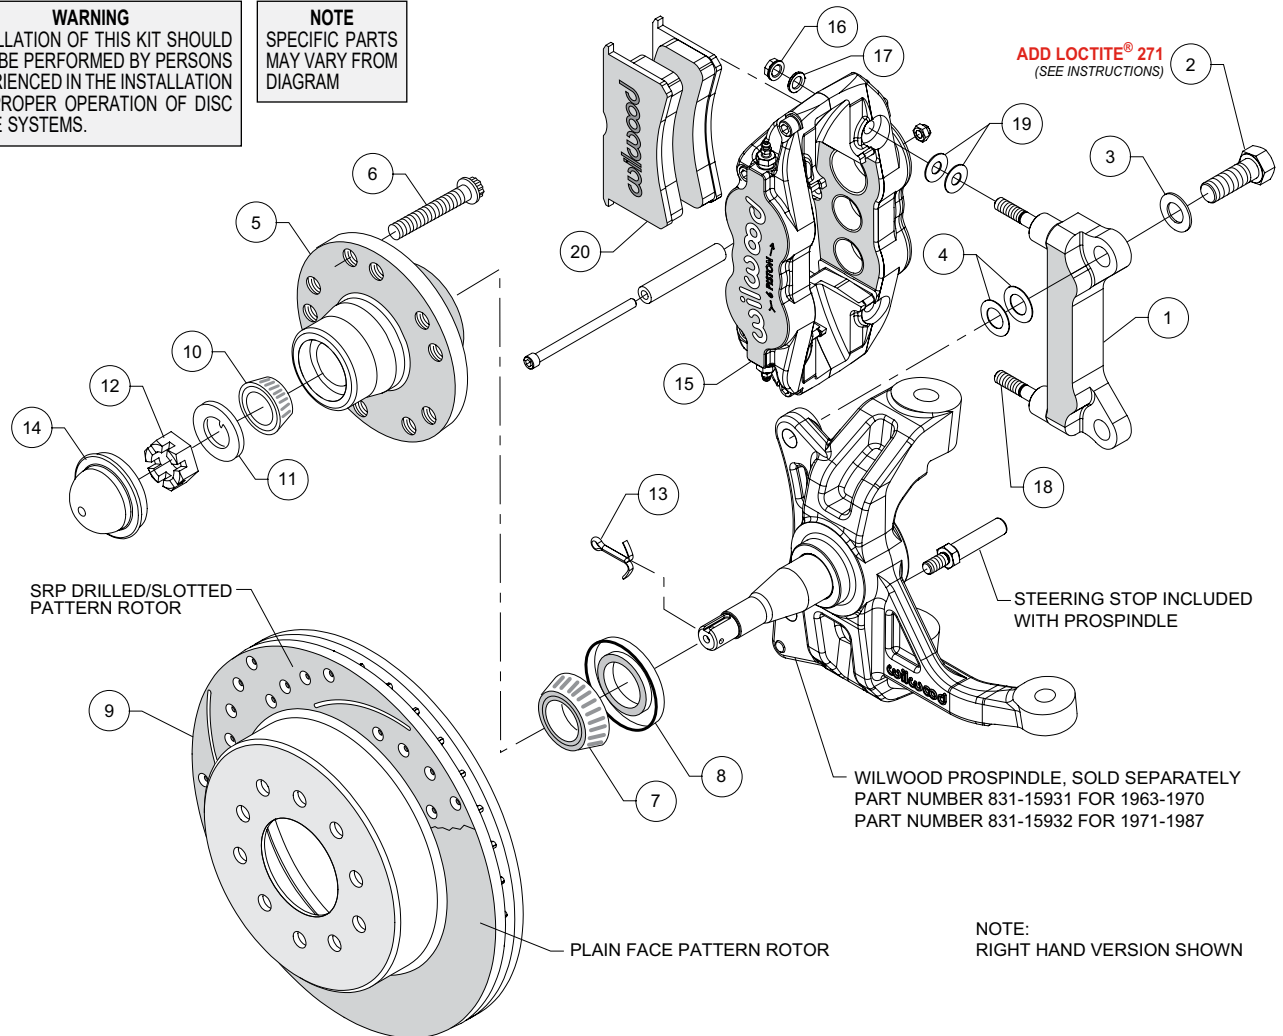

Figure 1. Typical Installation Configuration
NOTE: Numbers in parenthesis refer to the parts list and Figure 1 on the preceding pages.
- Install the steering stop bolt (included with the ProSpindle) into the spindle as shown in Figure 1 and Photo 1. Torque to 25 ft-lbs.
- The caliper mount bracket (1) should initially be installed with clean, dry threads on the mounting bolts. Orient the bracket, as shown in Figure 1 and Photo 2, and install using bolts (2) and washers (3). Initially place two .024" thick shim (4) on each bolt between the bracket and spindle, Figure 1. Temporarily tighten the mounting bolts. **NOTE:** *The bracket must fit squarely against the mount bosses on the spindle.* Inspect for interference from casting irregularities, machining ridges, burrs, etc. Later, after the caliper alignment has been checked, the mount bolts will be secured using red *Loctite*® 271.
- Install wheel studs (6) into the hub (5), Photo 3. Torque to 77 ft-lb. **NOTE:** *There are two five lug patterns in the hub (5 x 4.75 and 5 x 5.00).* Ensure the correct hub stud pattern is being used to fit the wheel application.
- Pack the large inner bearing cone (7) with high temperature disc brake bearing grease (available from your local auto parts store) and install into the backside of the hub (5), Photo 4.
- Install the grease seal (8) by pressing into the backside of the hub (5), flush with the end of the hub, Photo 5.
- Pack the small outer bearing cone (10) with high temperature disc brake bearing grease and install into hub (5). Slide the hub assembly onto the spindle. Secure using spindle washer (11) and spindle nut (12), Photo 6. Adjust bearings per OEM specifications. Install a new cotter pin (13).
- Press the dust cap (14) into the hub (5). **NOTE:** *Do not hammer center of cap. Install using outer flange only.*
- Slide the hat/rotor (9) onto the hub (5), Photo 7. **NOTE:** *The hat must fit flush against the hub face or excessive rotor run out may result.* Install three lug nuts (finger tight) to keep the hat/rotor in place while continuing with the installation.
- NOTE:** *This kit contains distinct right and left hand calipers that must be mounted in a specific direction, as described below.* Initially place two .035" thick shims (19) on each stud (18) between the caliper and the bracket, as shown in Figure 1 and Photo 8. Mount the caliper (15) onto the bracket (1) using lock nuts (16) and washers (17), Figure 1. Temporarily tighten the lock nuts. Ensure that the caliper is mounted so that the largest pistons are at the rotor exit end of the caliper, in relation to the direction of rotor rotation. View the rotor through the top opening of the caliper. The rotor should be centered in the caliper, Photo 9. If not, adjust by adding or subtracting shims (4) between the bracket and the spindle. Always use the same amount of shims on each of the two mounting bolts. Once the caliper alignment is